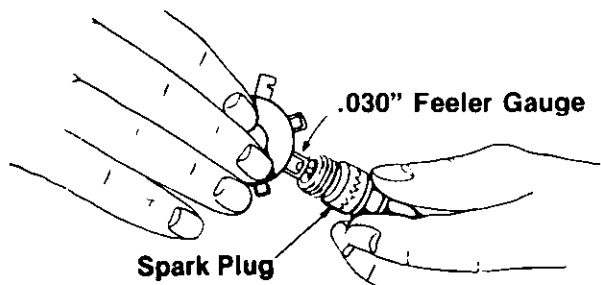

FIGURE 38.
1. Remove the spark plug each time you change the oil and inspect it. See figure 38.